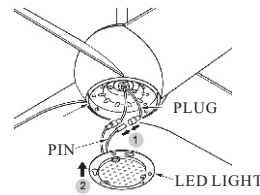

FIG. 19
4. Plug together light kit wires from fan to light kit wires from LED light.(See fig.19)